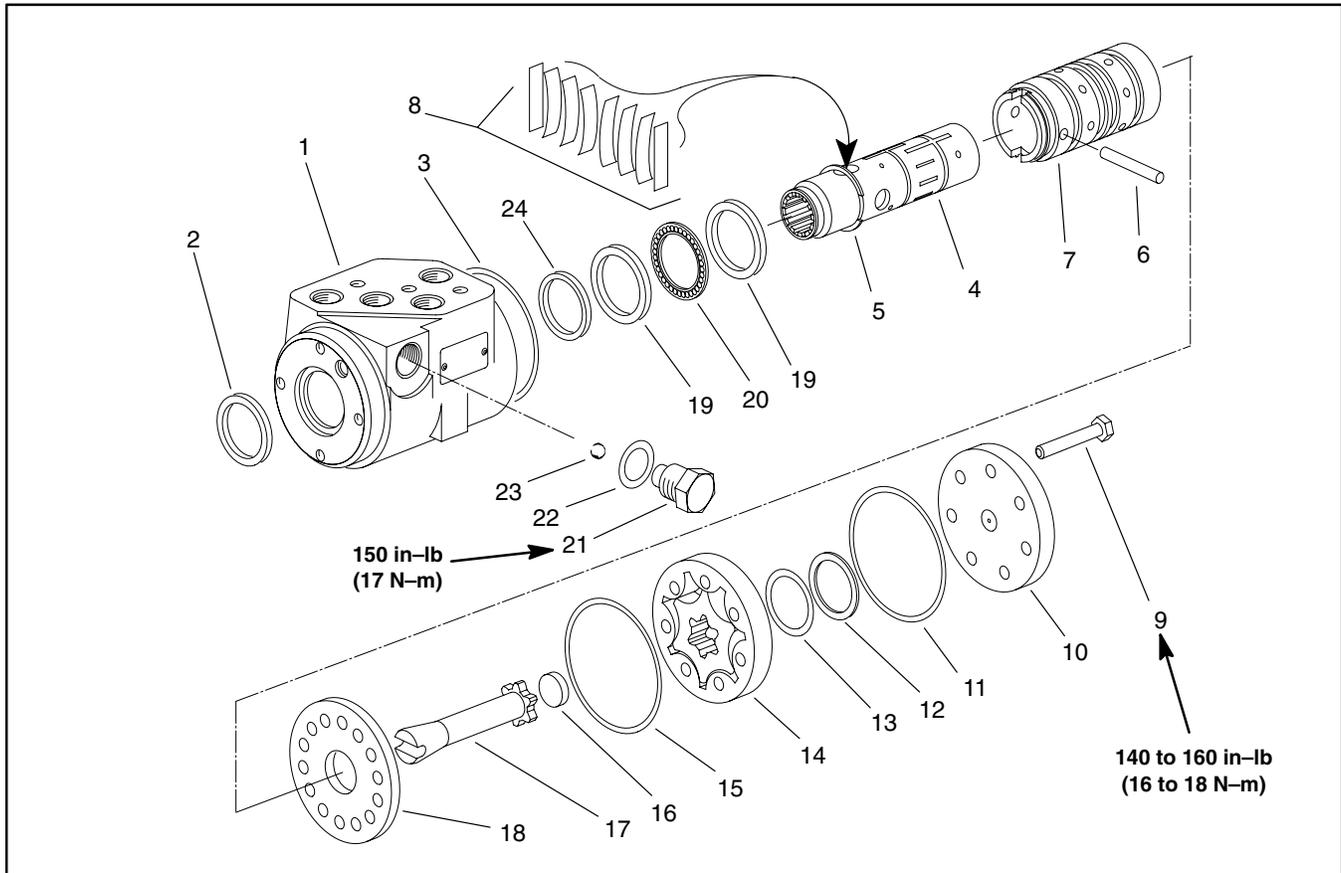

Figure 21
Disassembly (Fig. 21)
- Remove end cap, gerotor, spacer, gerotor drive, wear plate, seal ring, and o-rings (Items 11, 13, and 15) from housing (Fig. 21).
- Remove the thrust bearing and bearing races (2).
Reassembly (Fig. 21)